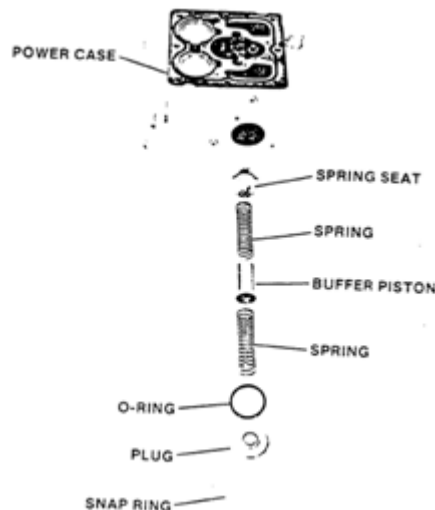

Figure 5-18. Compensation System
22. Remove spring seat and spring from power servo side of the power case (Figure 5-18).
23. Remove snap ring, plug, O-ring, spring, and buffer piston (Figure 5-18).